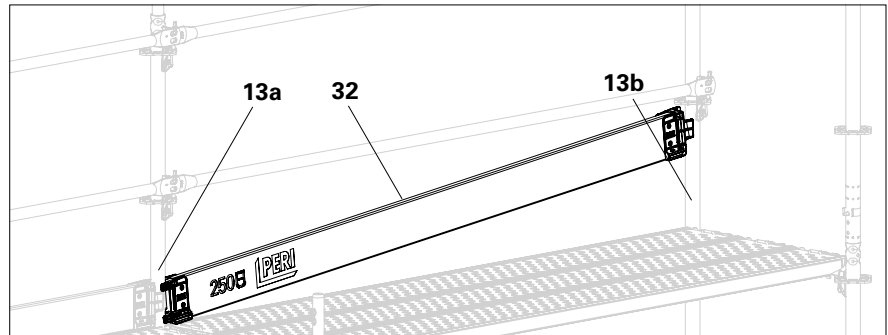

Fig. A5.07a
1. Place the Toeboard UPF(32) on one side with the end piece on the Standard UVR (13a).
- (Fig. A5.07a))